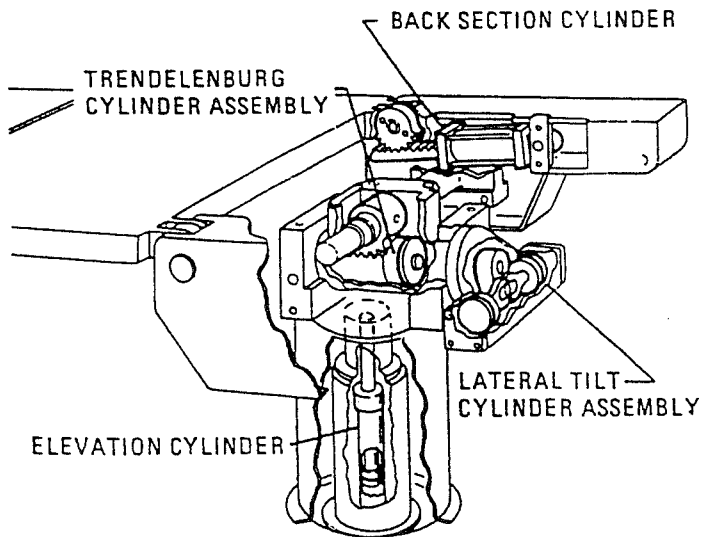

Figure 1-15. Cylinder Placement
There are four (4) types of hydraulic cylinders used in the table that activate the control functions. With the exception of the elevation cylinder and side move base brake cylinders, all operate basically the same way. The control functions are listed below: (See figure 1-15.).